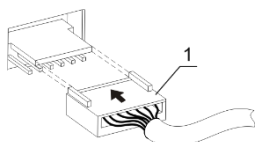

Figure 1. Thermoblock connection
- Choose the thermoblock, connect the plug to the contact terminal according to the scheme on fig. 1/1 on the underside of the thermoblock. Make sure that the connector is mounted tightly.
- Lift the block without damaging the cable and disconnect the plug (fig. 1/1).